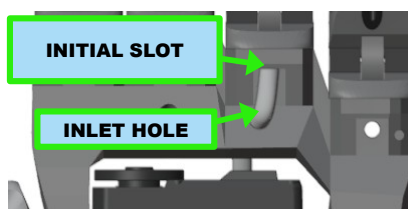
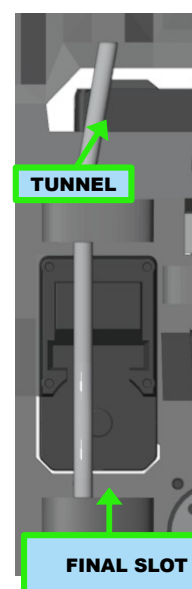

Figure 5.32 : Inserting the tube into the initial slot (front view)
Figure 5.31: Inserting the tube into the pass-through tunnel and then into the final slot (rear view) (vista posteriore)
1. Insert the PTFE tube into the outlet hole (on the rear of the skeleton) of the flexion tendon (figure 5.31), let it come out through the inlet hole on the front of the skeleton and insert it into the initial slot (figure 5.32)